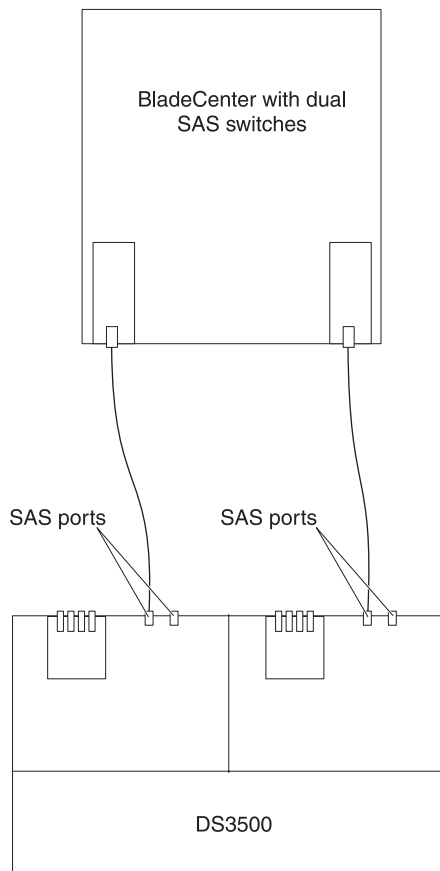

Figure 3-57. Example of a DS3500 that is connected to a BladeCenter unit
2. To create a redundant host connection, connect a SAS cable from a second SAS connectivity module to a host connector on the other controller in the DS3500. You can create a maximum of two redundant host connections in a dual-controller DS3500, one connection each from the blade center to the DS3500 controller host port as shown in Figure 3-57.
Figure 3-57 shows an example of a DS3500 that is connected to one BladeCenter unit.